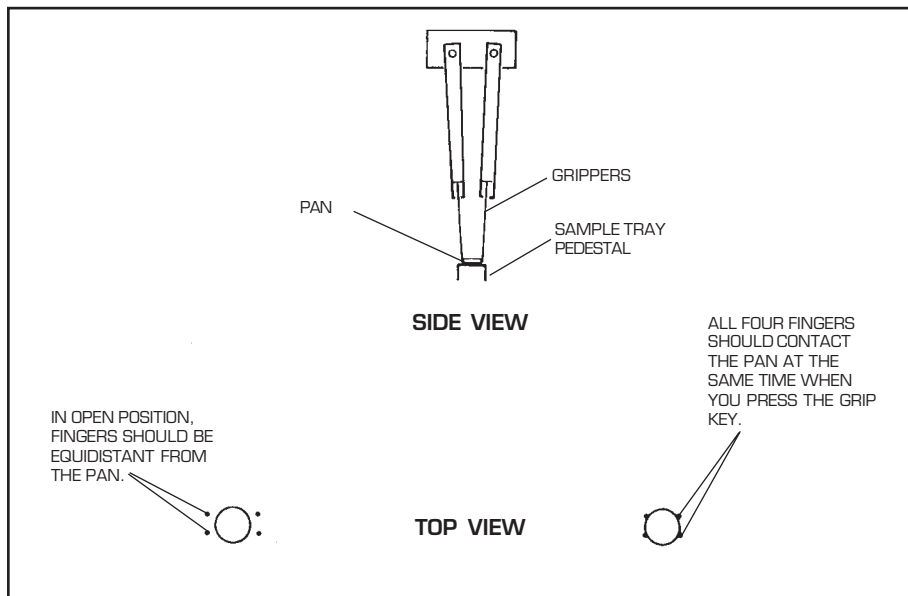

Figure 4.4
5. Use the motion keys to position the grippers over the pan in tray position #1. Press the GRIP and RELEASE keys to ensure that the fingers can firmly grasp the pan, and watch carefully to ensure that each finger contacts the pan at the same time (see Figure 4.4 on the next page).
12. When the turret stops moving, close and open the grippers again, and check your calibration against the criteria in Figure 4.4. Remember to release the pan. If the position is correctly calibrated, go on to step 13. If it is not, repeat steps 5 through 12 for tray position 1.